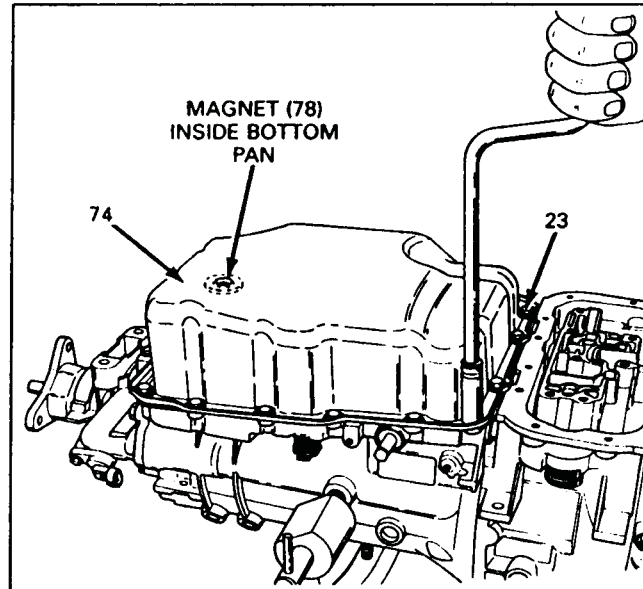

Figure 134
23. Install the magnet into the bottom pan prior to installation. See Figure 134 for location.
25. Torque the 16 bottom pan bolts using a 10mm socket, to 9 ft.lb. as shown in Figure 134.